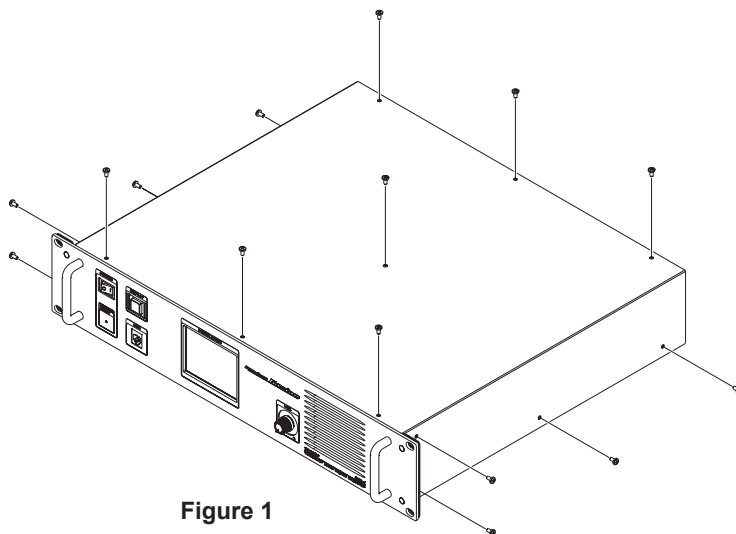

Figure 1
3. Referring to Figure 1, remove the 4 screws from each side and 7 screws from the top cover of the DR-1, then remove the top cover.